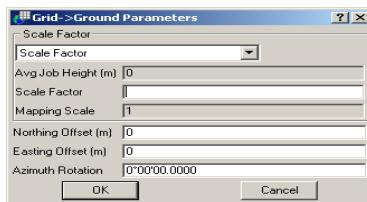

Figure 3-33. Grid->Ground Parameters Dialog Box
- On the **Grid->Ground Parameters** dialog box, enter the transformation parameters (Figure 3-33).